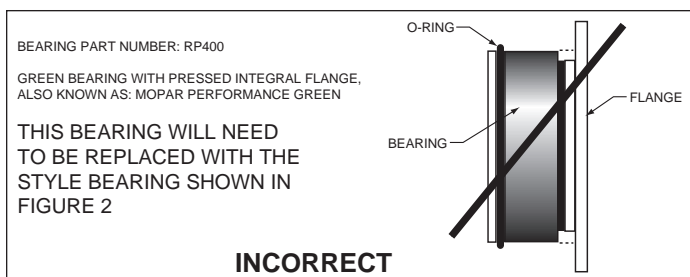
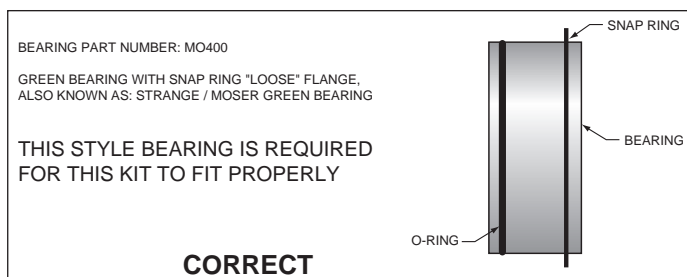
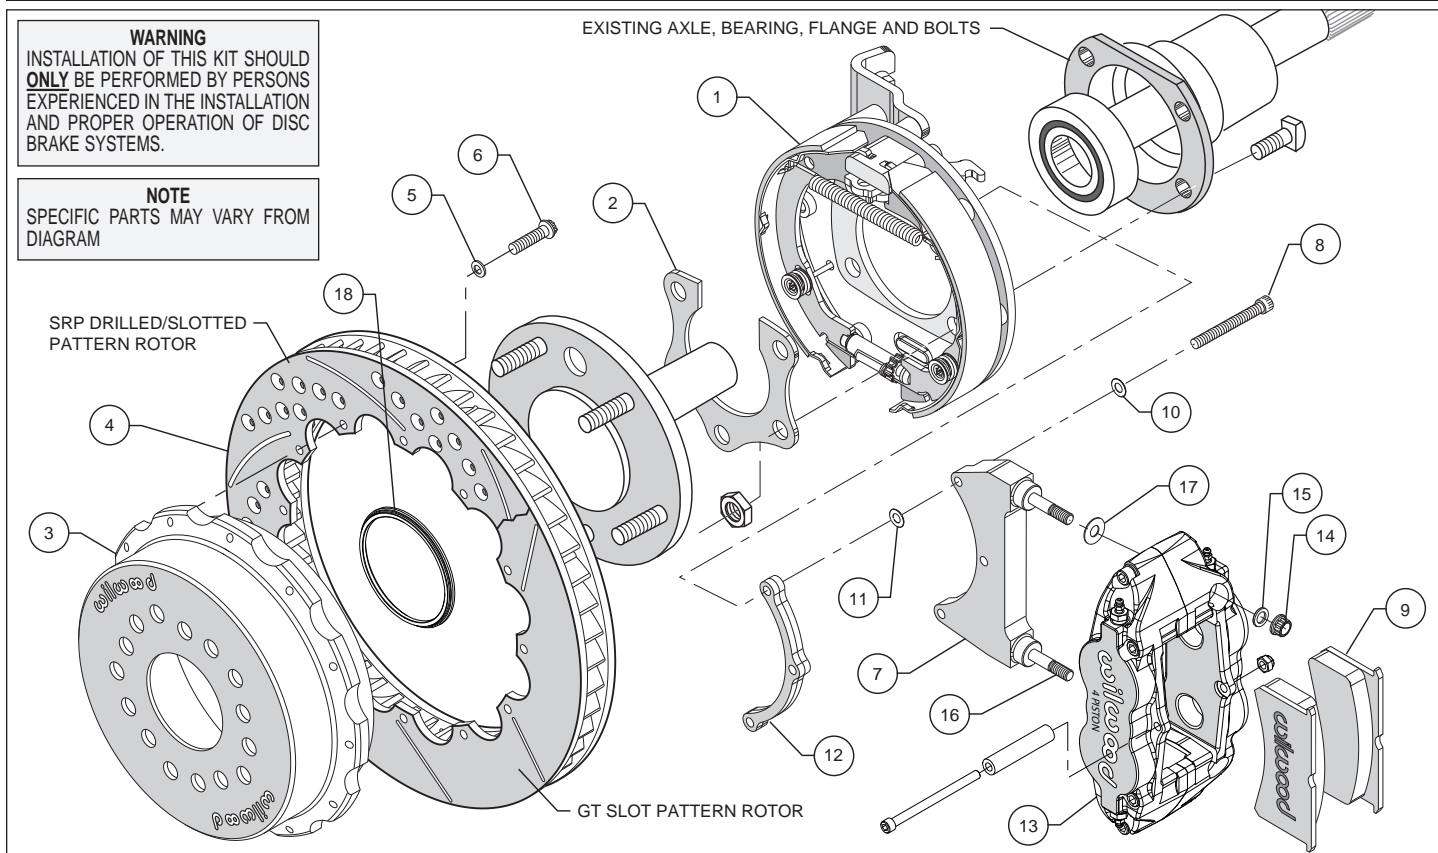

Figure 1. Press Fit Bearing Configuration
Figure 2. Loose Fit Bearing Configuration
Figure 3. Typical Installation Configuration
- It is important to verify which bearing you have. There are two types of "Green Bearings" being supplied by axle manufacturers. Your setup should look like figure 2 (below right), not the figure 1 (below left) configuration, otherwise this kit will not fit.
- Axle center register diameter is 2.80", Figure 3. This kit uses Wilwood's removable center register adapters. Rotors can either be centered on the axle register, i.e. *register-centric* or centered on the wheel studs, i.e. *stud-centric*. Due to variations in wheel stud final diameters, *register-centric* centering can be a more accurate method of centering the rotor to the axle. Wilwood offers various diameter adapters for purchase in addition to the ones supplied in this kit, see Table 1.
- Determine that the appropriate snap ring style green bearing has been installed on the axle, as shown in Figure 2. Temporarily remove snap ring from bearing. Orient the bracket assembly (1) as shown in Figure 3 and slide it onto the axle and over the bearing. Reinstall snap ring on bearing. Insert the axle and bracket into the axle housing. Ensure that the bracket assembly backing plate fits flush against the axle housing flange.
- Install the bearing retainer (2) with the opening pointing upward and the bearing relief step facing inward (toward the bearing), as shown in Figures 3 and 6. Secure retainer and bracket assembly to the axle housing flange using the Original Equipment Manufacturer (OEM) bolts and nuts, Figure 3. Apply red *Loctite*® 271 to the OEM bolt threads and torque to OEM specifications.
- Slide the rotor registration adapter (18) onto the axle register on the axle flange with the smaller O.D. facing toward the rotor/hat (3). Align the correct hole pattern in the hat with the stud pattern on the axle flange. **NOTE:** Some OEM and aftermarket axles come with stud sizes larger than 0.50" diameter. Verify stud size and have a qualified machine shop drill the hats to the correct size, if necessary. Slide the hat/rotor assembly (3 and 4) over the wheel studs covering the bracket kit assembly (1) and against the axle flange face. Check to be sure the hat seats squarely against the hub. Install a couple of lug nuts (finger tighten) to keep the rotor/hat assembly in place while continuing with the installation.
- NOTE:** Please reference the caution statement at the beginning of the assembly instructions. The caliper mounting bracket assembly (7) should be installed first with clean, dry threads on the mounting bolts (8). Install the bracket from the rear side of the bracket kit assembly (1) by sliding bolt (8) through flat washer (10), bracket (7), shim washer (11) and finally through the spacer (12), see Figure 1. **NOTE:** End of bolt should not exceed inside face of insert. The bracket must tighten squarely against the back side of the bracket kit assembly (1). Inspect for interference from casting irregularities, machining ridges, burrs, etc. Use one thin shim (11) between the bracket (7) and spacer (12) during initial trial fitting.
- Install one washer (17) over each pre-installed stud (16) on the radial mount bracket (7). Slide the caliper (13) in place over the studs and rotor, then install the washer (15) and lock nut (14) to hold the caliper in place. Snug the lock nuts (14) and check that the rotor (4) is centered in the caliper (13). Add or subtract .015" shims (11) as necessary between the caliper mounting bracket (7) and the spacer (12) to center the caliper (13).
- Remove the caliper center bridge pad retainer bolt, nut, and tube from the caliper. Slide the brake pads (9) into place. They should install easily without interference. Check that the outside radius of the brake pad is aligned with the outside diameter radius of the rotor face. Add or subtract shims (17) between the caliper (13) and mount bracket (7) to gain the proper alignment. Reinstall the center bridge pad retainer tube, bolt, and locknut. The locknut should be snug without play in the bolt or tube. Be cautious not to over tighten.
- Adjust the parking brake shoes outward (using a drum shoe adjustment tool available at your local auto parts store) while spinning the hat (3) until a slight drag is felt against the hat/drum. Remove the lug nuts that were holding the hat/rotor in place. Install the wheel and lug nuts. Check to see that the wheel rotates freely without interference.
- Once all clearances have been checked, remove the wheel, caliper, hat/rotor from the bracket kit assembly (1). Secure the caliper mounting bracket (7) to the bracket kit assembly (1) using red *Loctite*® 271. Torque bolts (8) to 180 in-lb. Reinstall the hat/rotor assembly and again use lug nuts to hold it in place. Lubricate caliper mounting studs and nuts with lightweight oil, reinstall the caliper, torque the caliper nuts (14) to 30 ft-lb.
- NOTE:** Clevis and cable kits which attach to the parking brake assembly are not included in the Wilwood parking brake kit. Wilwood offers a generic style parking brake cable kit, P/N 330-9371 for this application which can be ordered separately from your local Wilwood dealer or by calling Wilwood customer service at (805) 388-1188.